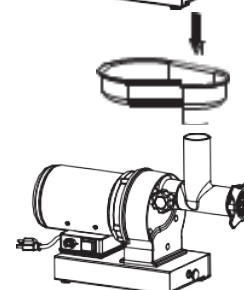

Fig. 6
- Insert the hopper meat tray onto the throat of the head. (See Fig 6)